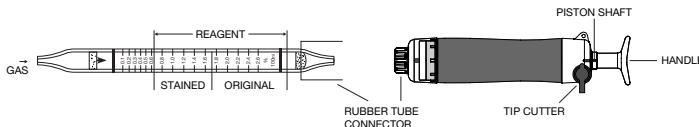

Fig. 1
- ② Insert the detector tube into the aspirating pump securely as shown in Fig.1. (Arrow mark shall point to the pump.)
- ③ Align the guide marks on the shaft and stopper of the aspirating pump.
- ④ Pull the pump handle at a full stroke until it locks and wait for 5 minutes or until the completion of sampling is confirmed with the flow indicator of the pump. (See descriptions about the flow indicator in the instruction manual of the pump.)
- ⑤ On completion of sampling, read the scale at the maximum point of the stained layer.
- ⑥ When the concentration is over the scale range, a 1/2 pump stroke can be used to determine concentrations of 0.2 to 5.2 ppm.